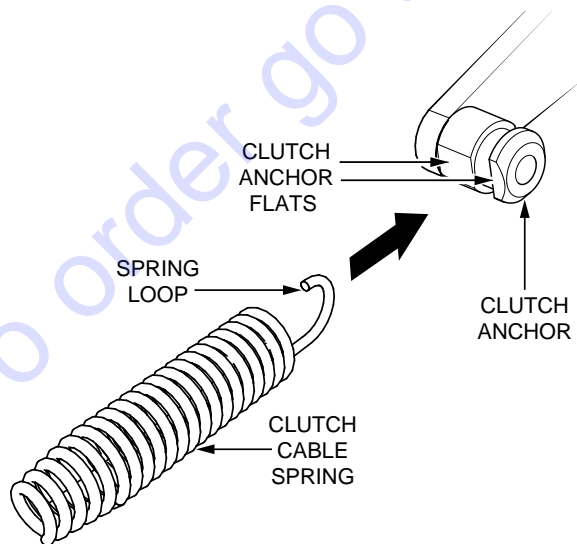

Figure 19. Spring Loop Attachment
- Connect the clutch cable to the clutch anchor by placing the clutch cable spring loop over the clutch anchor flats as shown in Figure 19. Use needle-nose pliers to slide the spring loop fully into the groove.